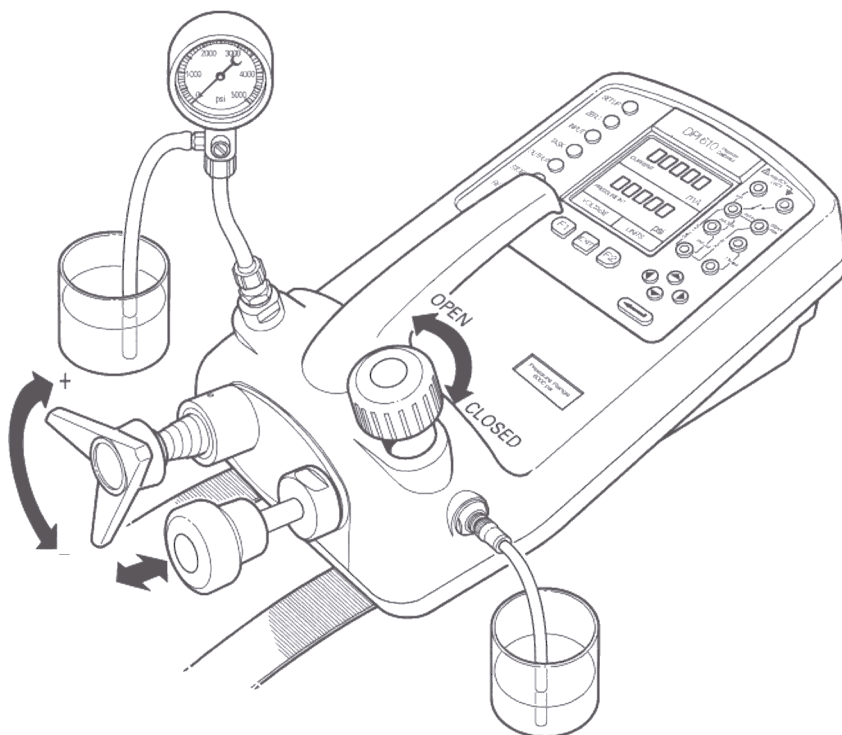

Figure A2 - Priming/Test Set-up
- ❑ Connect the device or system under test to the pressure port using a bonded seal as shown in Figure A2.